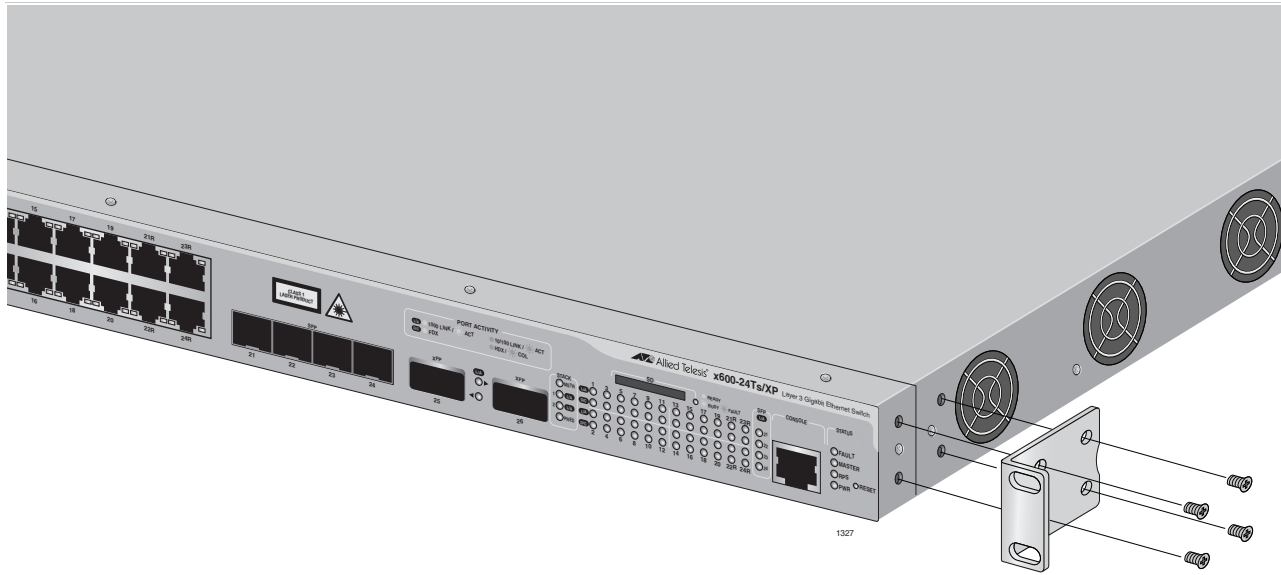

Figure 19. Attaching Rack-Mount Brackets
4. Attach a rack-mount bracket to one side of the switch using four of the screws that come with the switch, as shown in Figure 19.